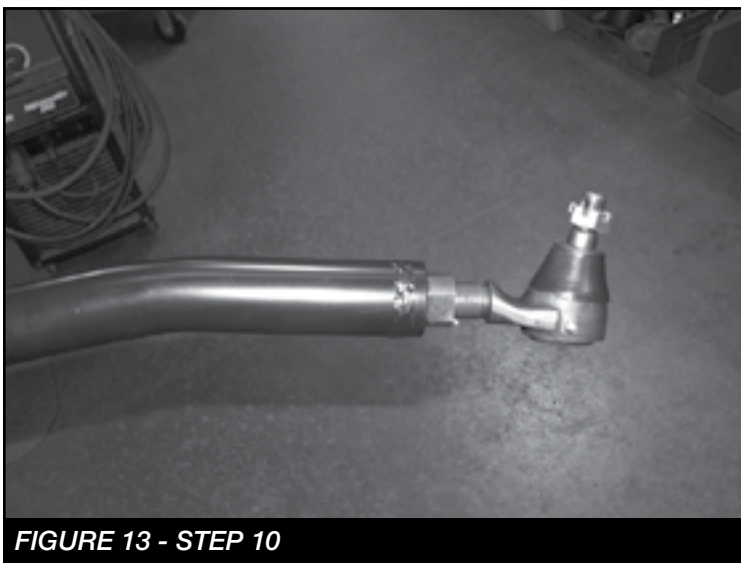

FIGURE 13 - STEP 10
10. Install the new rod end into the drag link. **SEE FIGURE 13**